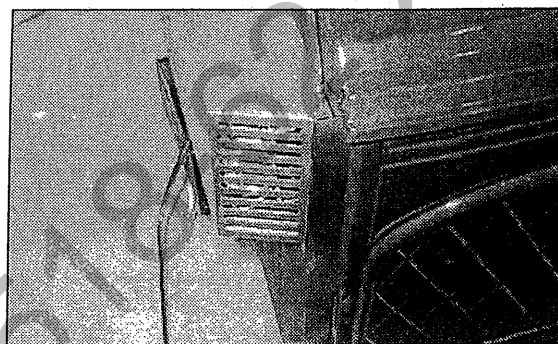

Figure 19
4. Install the blower housing onto the backshield. Position the housing over the switch and control knob and attach with the screws provided. See Figure 19. Be careful not to pinch the wires between the housing and the backshield.